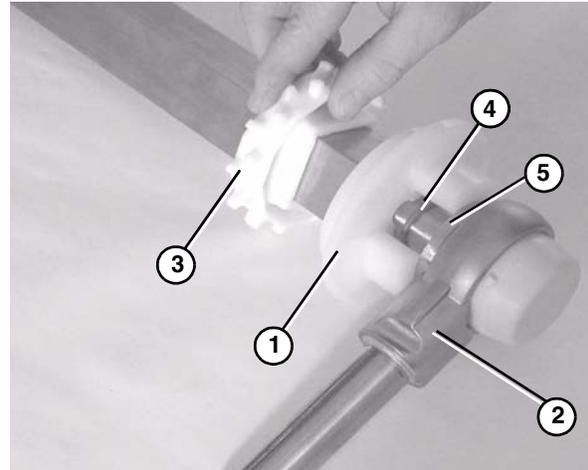

Figure 74
1. Attach a flanged puck (Figure 74, item 1), an O-ring (Figure 74, item 4), a washer (Figure 74, item 5) and a bearing shaft assembly (Figure 74, item 2) to the supporter end of the drive spindle.
2. Slide the first sprocket (Figure 74, item 3) onto the drive spindle.